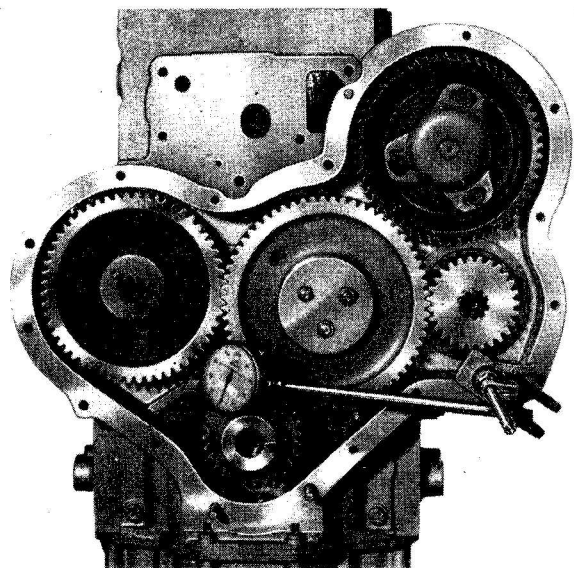

Fig. 3
2. Check the timing gear backlash (Fig. 3) using a clock gauge or feeler gauges. This should be 0,08 mm (0.003 in) minimum.